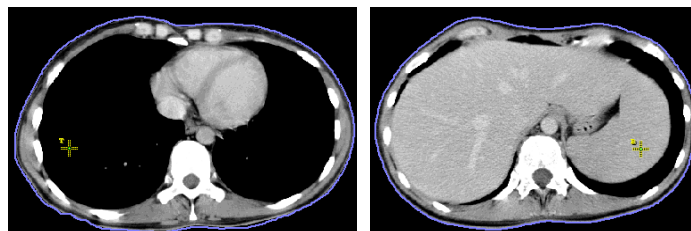

Figure 276 – Defining the top point and bottom point of the bolus
- The top point and the bottom point (the cursor is marked as **T** and **B** respectively) can be selected in any image in the current view. It is not necessary that these points are located on the contour line but simply in a view displaying the same image series (see Figure 276). The cursor will not be displayed as a green tick for **T** and **B**.